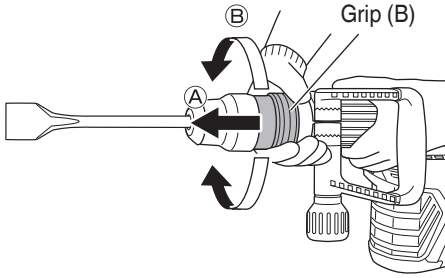

Fig. 3
- (1) As shown in Fig. 3, the blade angle can be freely changed if the grip (B) is turned in the direction of Ⓑ in a state where grip (B) is slid in the direction of Ⓐ.